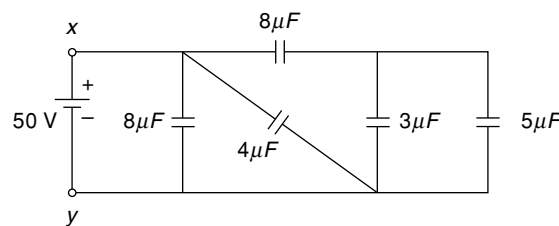

Fig. 1.24 Network of capacitances of Ex. 1.10
1.10 Find the equivalent capacitance across terminals x - y in Fig. 1.24. Also find the time to charge the capacitances by a direct current of 10A .